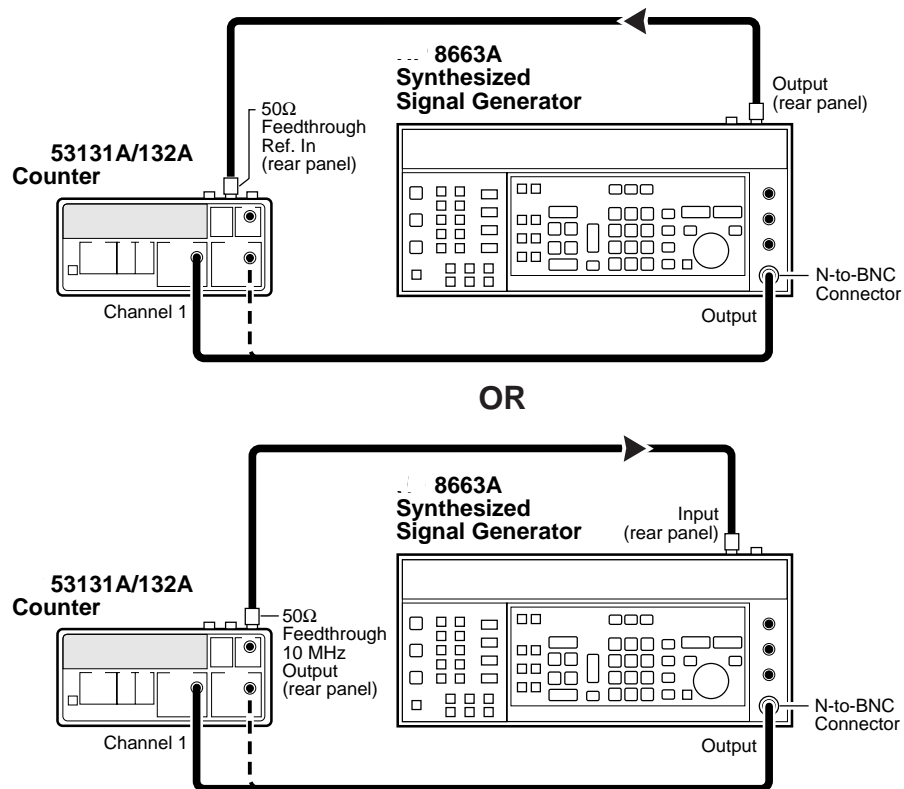

Figure 1-7. Channels 1 and 2 Frequency Sensitivity Test Setup
- 1 Connect the timebase output of the unit with the better timebase to the timebase reference input of the other unit as shown in Figure 1-7.
For this test, make sure you always use the unit (Agilent 53131A/132A or Agilent 8663A) that contains the better 10 MHz timebase as the output source as shown in Figure 1-7.